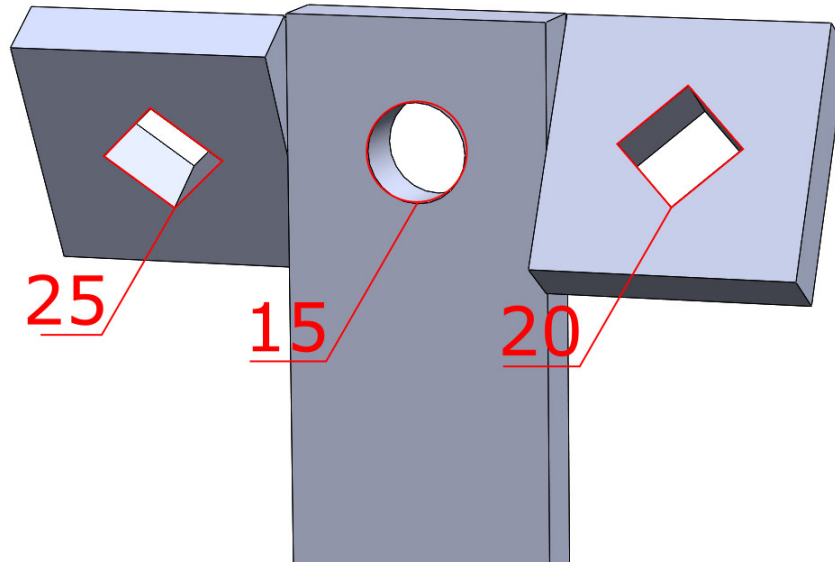

Figure 3: Delivery Zone Point Values
- **Delivery Base Score** D_b depends on which Payload object the team selects for a particular run. See figure 3 for the points awarded for each deposit.